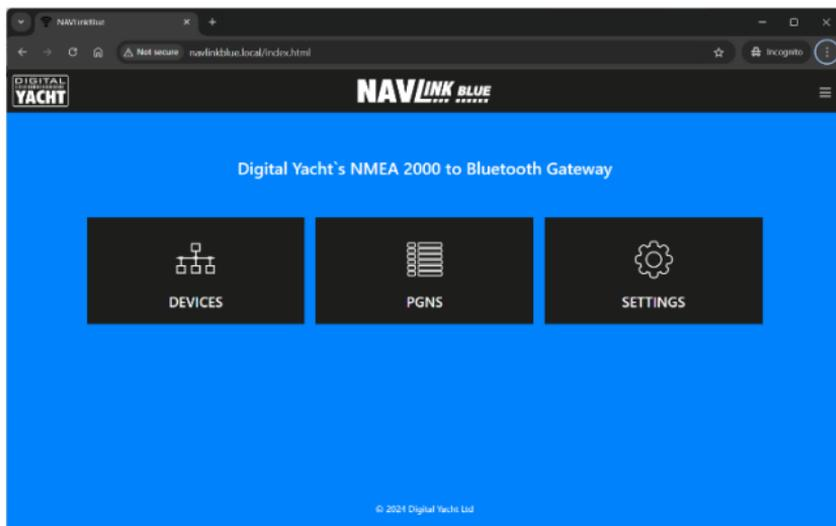

Figure 1
- This will display the Home page shown in Figure 1, from which you can go to the NMEA 2000 Devices and PGNs pages and Settings page.